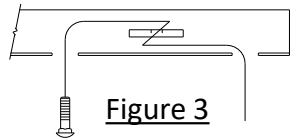
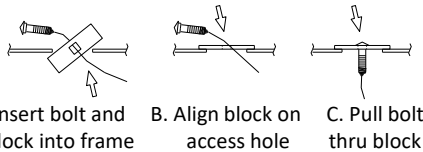

Figure 3
Figure 4
- Fishwire fasteners** – Using the fishwire technique in Figure 3, install the rearmost fastener through the drilled access hole (each side), then using the reverse fishwire technique in Figure 4 install the forward fastener (each side) leave fishwires attached.
- Reinstall exhaust hangers**– reinstall the (3) exhaust hangers to return the exhaust to the original position.